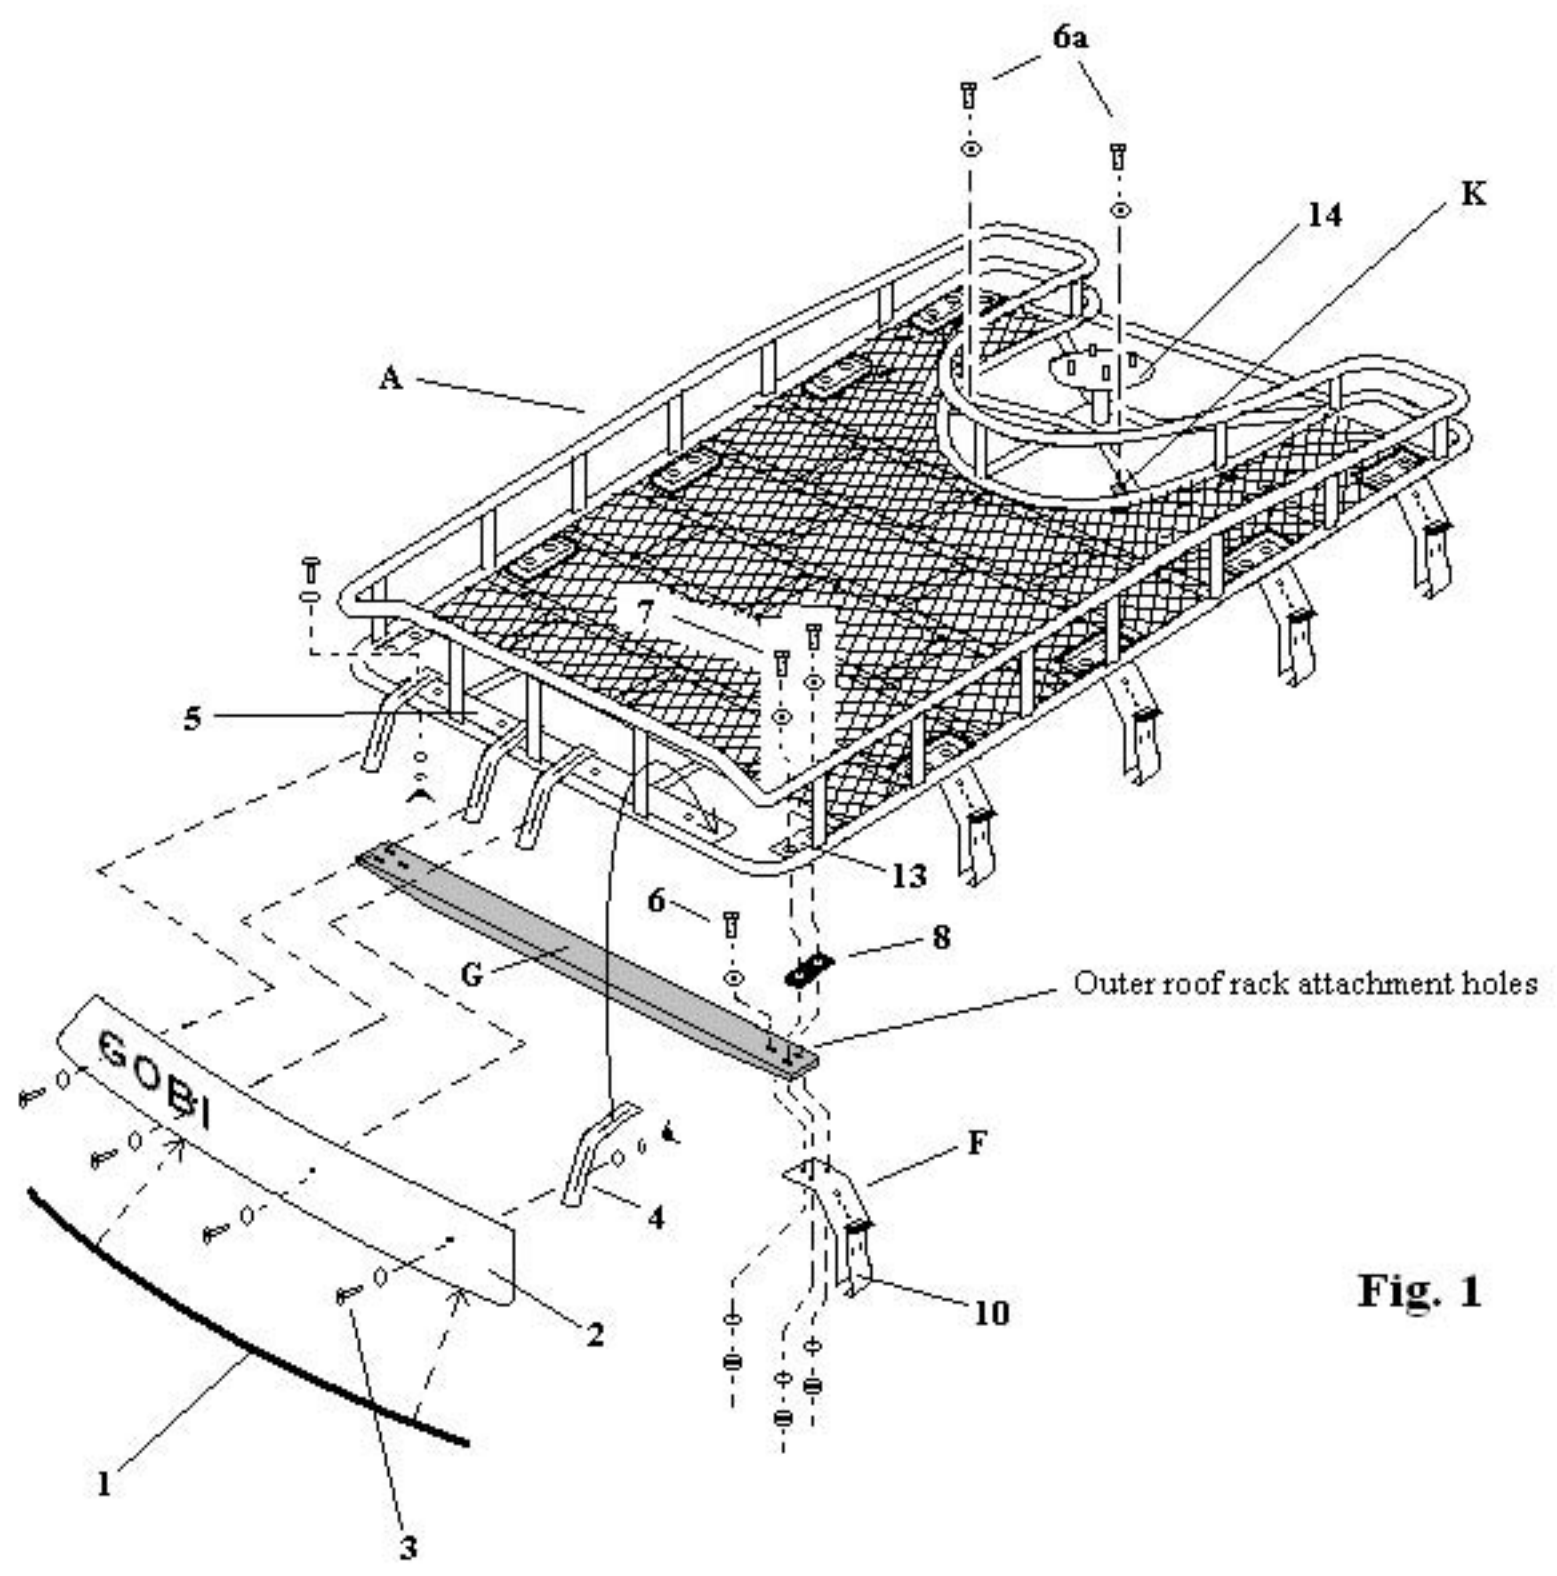
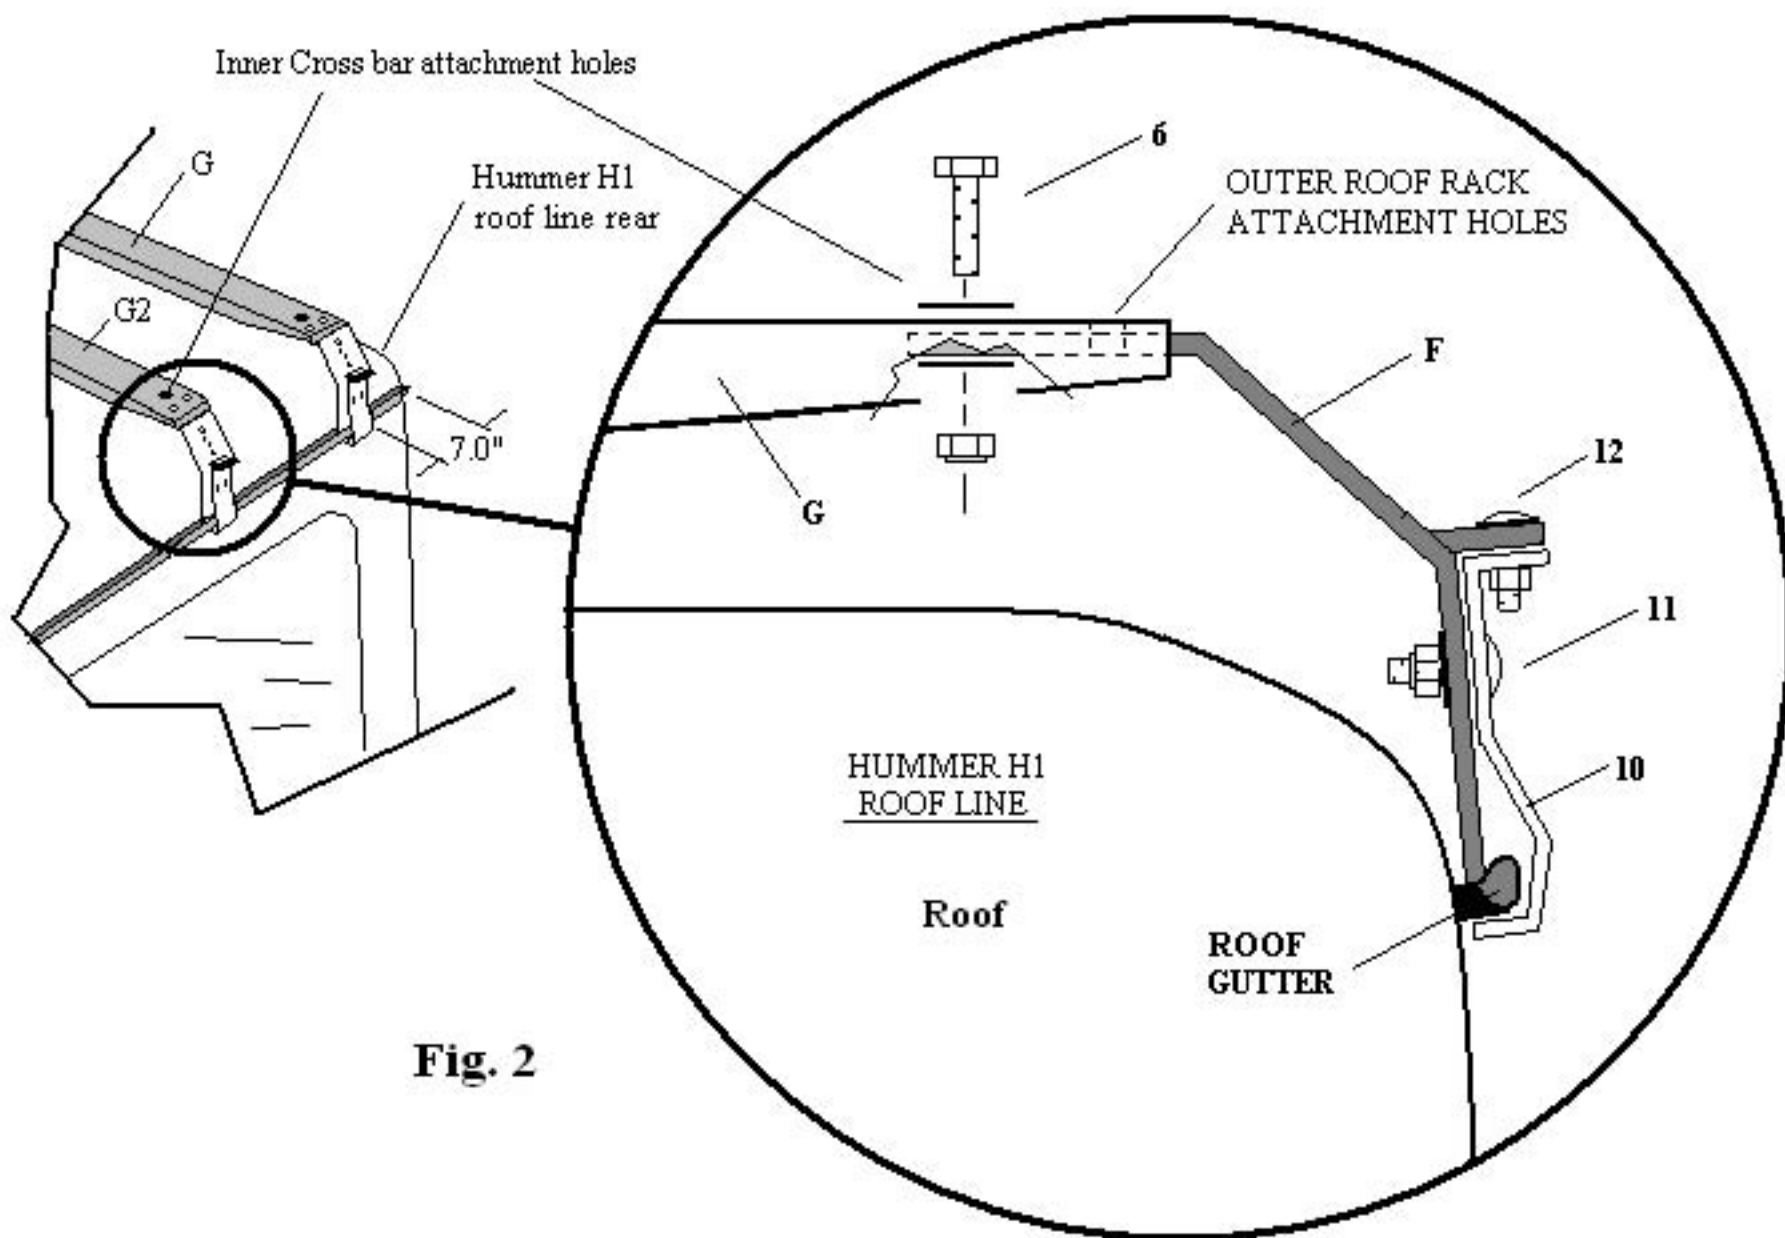
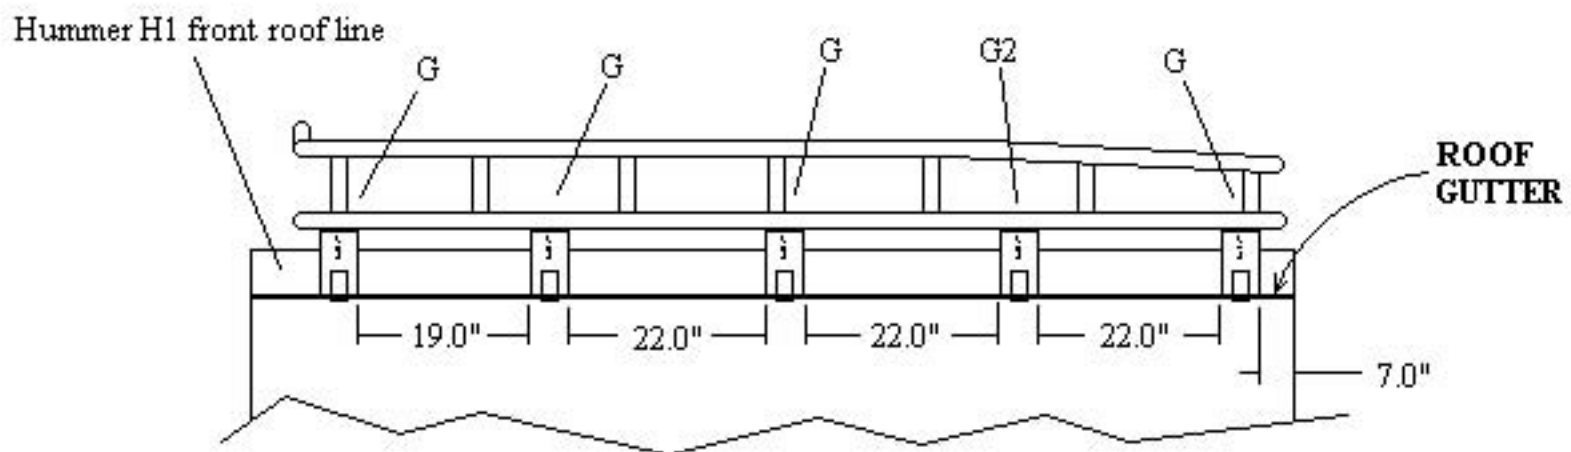

Fig. 1
Fig. 2
Fig. 3
2. Plastic Bag labeled #2 remove contents and place black button head screw #3 thru black washer and then thru fairing #2 as shown in Fig. 1 page 3. Place fairing onto bracket #4 and attach black washer, lock washer and wing nut finger tight only. Attach all 4 brackets but do not attach fairing to rack at this time.
3. Unpack the 5 cross bars "G" as shown in Fig. 1 page 3 and spread all 5 cross bars on a flat level surface. Remove contents from Plastic Bag labeled "H" and attach support brackets "F" into the ends of all 5 cross bars "G" as shown in Fig. 2 page 4. Attach only 1 bolt, washers and nut #6 Fig. 1 page 3 and Fig. 2 page 4 found in Plastic Bag "H" into the cross bar "G" ends marked "Inner Cross bar attachment holes" finger tighten only at this time. The outer two sets of holes located at the end of cross bars "G" marked "Outer roof rack attachment holes" Fig. 2 page 4 will be used to attach the rack to the cross bars at a later time.
4. With all support brackets "F" attached to cross bars "G" begin to straddle each cross bar over the roof top of the vehicle and rest each bracket "F" into the roof gutters as shown in Fig. 2 and Fig. 3 page 4. Place the first cross bar "G" 7" from the rear of the vehicle's roof line as shown in Fig. 2 and Fig. 3 page 4. Add Cross bar marked G2 to the second position as shown in Fig. 2 and Fig. 3 page 4. Continue to add each cross bar "G" towards the front of the vehicle separated by the dimensions shown in Fig. 3 page 4. Once all 5 cross bars "G" have been installed begin to tighten clamps #10 on bracket "F" as shown in Fig. 2 page 4. Prior to tightening be sure all clamps #10 are correctly placed under the vehicle gutter as shown in Fig. 2 page 4. Start by snugging down carriage bolt #11 on clamp #10 Fig. 2 to the point that the clamp has very little wiggle but not completely tight. Now begin to tighten the smaller carriage bolt #12 as shown in Fig. 2 which will pull clamp #10 upwards pinching clamp #10 to the gutter of the vehicle. Only snug down all clamps and cross bars at this time.
5. Place GOBI H1 Hummer roof rack "A" on the top of all cross bars "G" as shown in Fig. 1 page 3 and Fig. 3 page 4. Align welded in brackets #13 of GOBI roof rack "A" as shown in Fig. 1 page 3 to cross bars "G" "Outer roof rack attachment holes" shown in Fig. 1 page 3 and Fig. 2 page 4. After aligning the roof rack to the cross bars "G" slip black rubber pad #8 as shown in Fig. 1 page 3 between the roof rack welded in bracket #13 and cross bar "G" "Outer roof rack attachment holes". After all #8 pads found in Plastic Bag "H" are in place begin to insert and finger tighten all remaining bolts, washers and nuts #7 as shown in Fig. 1 page 3 found in Plastic Bag "H".
6. When all bolts and nuts have been installed properly secure the GOBI roof rack "A" to cross bars "G" and "G2" by completely tightening all bolts and nuts of cross bars "G" and "G2" to GOBI roof rack "A". Once roof rack "A" is completely tightened and secured to cross bars "G" and "G2" and support brackets "F" begin to tighten all clamps #10 of support bracket "F" as shown on Fig. 2 page 4 but do not over tighten carriage bolts #12 as roof gutter may be damaged. After each clamp #10 is pulled up tightly by carriage bolt #12 to roof gutter completely tighten down clamp #10 to support bracket "F" using both carriage bolts #11. Complete the same procedure to all 10 support brackets "F".
- 8- If your GOBI roof rack is equipped with a tire carrier remove the remaining 2 bolts and washers from plastic Bag "H". Align bolt 6a through roof rack bracket "K" and into cross bar lock nut plate "J" attached to cross bar "G2" as shown in Fig. 1 page 3. Lock nut plate "J" can be moved to align with bracket "K" of roof rack once aligned completely tighten bolt then continue the same procedure to the second bracket "K" and tighten completely.